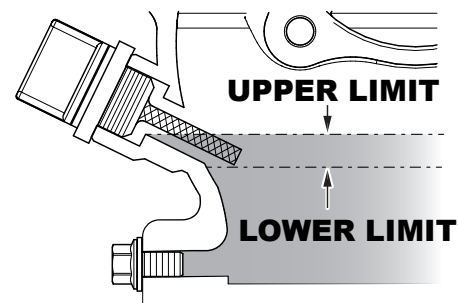

Figure 5. Engine Oil Dipstick (Oil Level)
4. If the oil level is low (Figure 5), fill to the edge of the oil filler hole with the recommended oil type (Table 6). Maximum oil capacity is 0.63 quarts (0.6 liters).